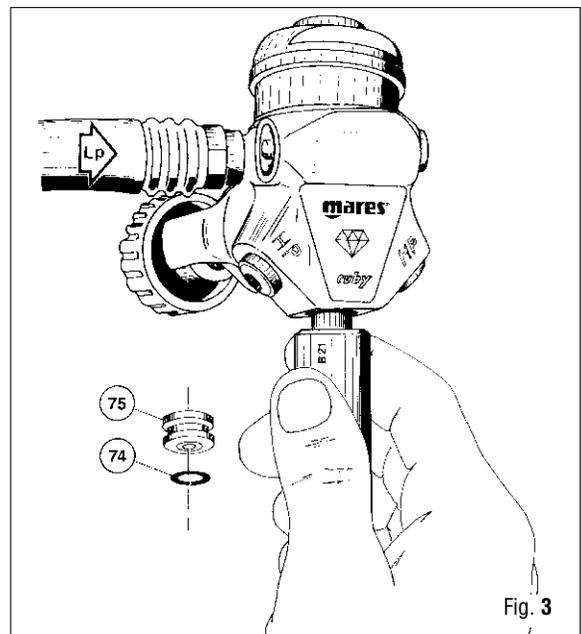

Fig. 3
6. Put on the First Stage seat (75) the special tool (B21), pressing it. Introduce compressed air (less than 7 bar - 101.5 psi) in a low pressure inlet. (Fig.3)